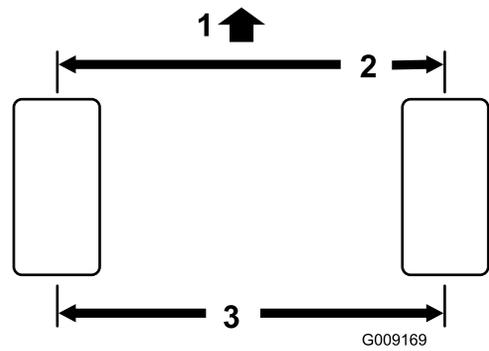

Figure 47
2. Measure the center-to-center distance (at axle height) at the front and rear of the steering tires (Figure 47). The measurement must be within 0 ± 0.12 inch (0 ± 3 mm) at the front of the tire then at the rear of the tire. Rotate the tire 90 degrees and recheck the measurement.